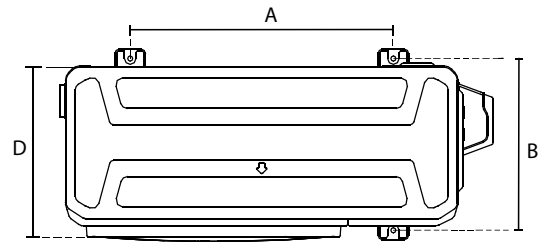

Fig.6-3
- The minimum distance between the outdoor unit and any obstacles described in the installation chart does not mean that the same is applicable to the situation of an airtight room. Leave clear two of the three directions. (Refer to Fig.6-3)